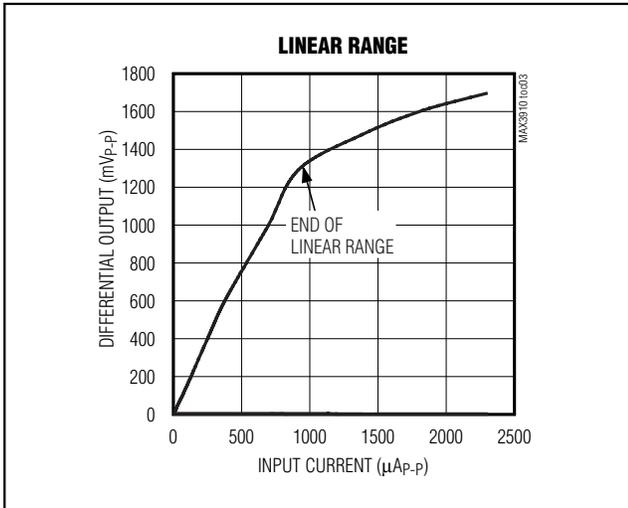

Figure 2. Linear Range of the MAX3910
**Note 5:** Transimpedance is defined as  $V_{OUT(P-P)} / I_{IN(P-P)}$  at 10MHz. Linear range is defined as the input signal level where the transimpedance deviates from the small-signal transimpedance value by no more than 10%. See Figure 2.
In addition to having a wide linear range, the MAX3910 has a soft-limiting feature. For inputs less than  $950\mu\text{A}_{\text{P-P}}$ , the MAX3910 operates linearly. Beyond this range, a soft-limiting feature is implemented so that the differential output swing is proportional to the input current, as shown in Figure 2. The output buffer is back-terminated with  $50\Omega$  on-chip resistors and can drive either a DC-coupled  $50\Omega$  load to VCC, or a  $50\Omega$  AC-coupled load.